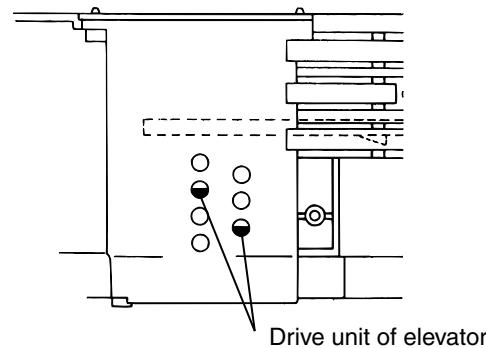
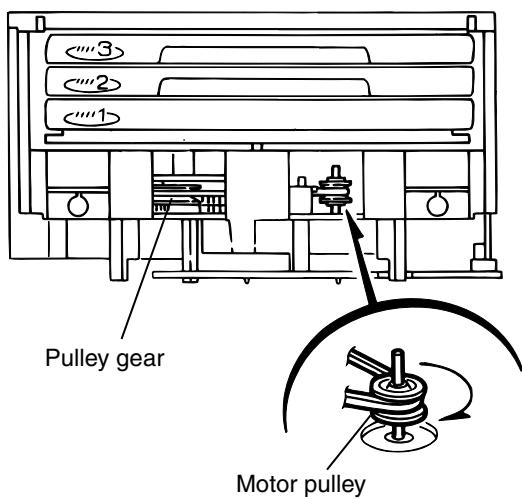

Fig.7
Fig.8
- [Caution]** In case the driver unit elevator is not at above position, set the elevator to the position as shown in Fig.7 by manually turning the pulley gear as shown in Fig.8.
13. Manually turn the motor pulley in the clockwise direction until the lifter unit stopper is lowered from the section "E" of DVD tray assembly(See Fig.8).